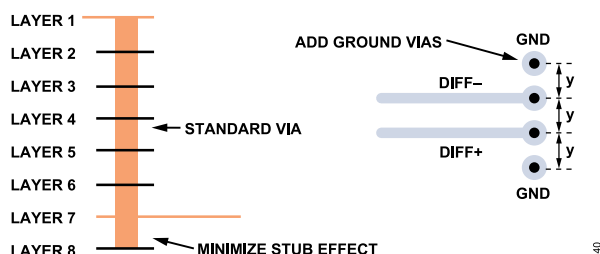

Figure 65. Minimizing Stub Effect and Adding Ground Vias for Differential Stripline Traces
- ▶ If using standard vias, use the maximum via length to minimize the stub size. For example, on an 8-layer board, use Layer 7 for the stripline pair (see Figure 65).
- ▶ For each via pair, place a pair of ground vias adjacent to them to minimize the impedance discontinuity (see Figure 65).